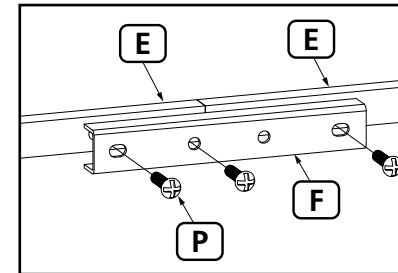

Fig. 3
Use Screws M6x14 mm (P) to connect two Cross Beams (E) and Cross Beam Connector (F). See Fig. 3.